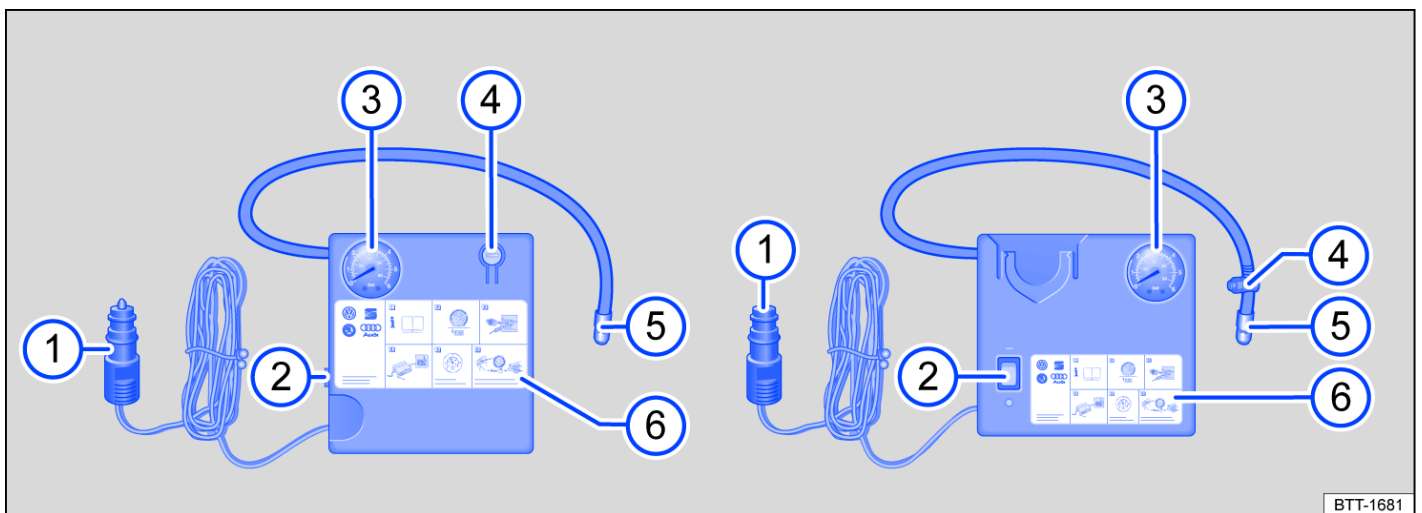

Fig. 2 Illustration: compressor from the breakdown set.
The compressor in the breakdown set consists of the following components → Fig. 2:
- Screw the tyre filler hose → Fig. 2 5 of the air compressor tightly onto the tyre valve.
- Check that the bleed screw → Fig. 2 4 is closed.
- Insert the 12-volt plug → Fig. 2 1 into one of the vehicle's 12-volt sockets (→ Sockets).
- Use the ON/OFF switch → Fig. 2 2 to switch on the air compressor.